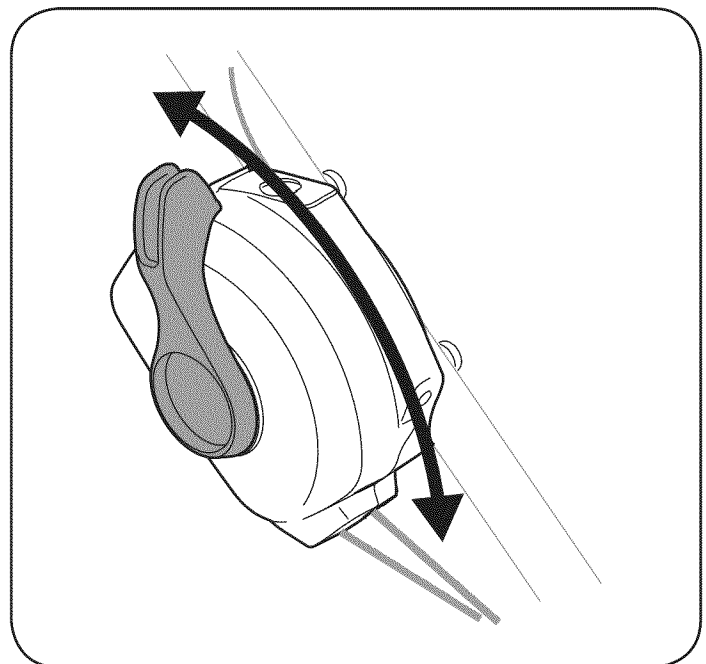

Figure 16
2. To change speed, move speed control to the desired speed. See Figure 16.